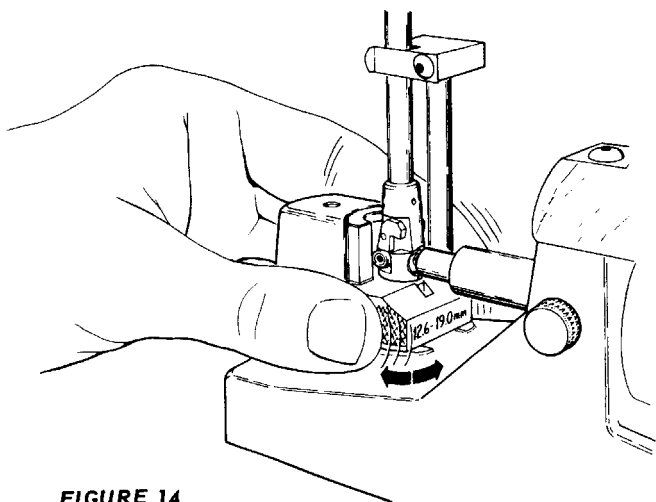

FIGURE 14
7. Rock the Nest in the horizontal plane until the Indicator Hand registers the minimum or "most minus" (-) reading (see Figure 14).